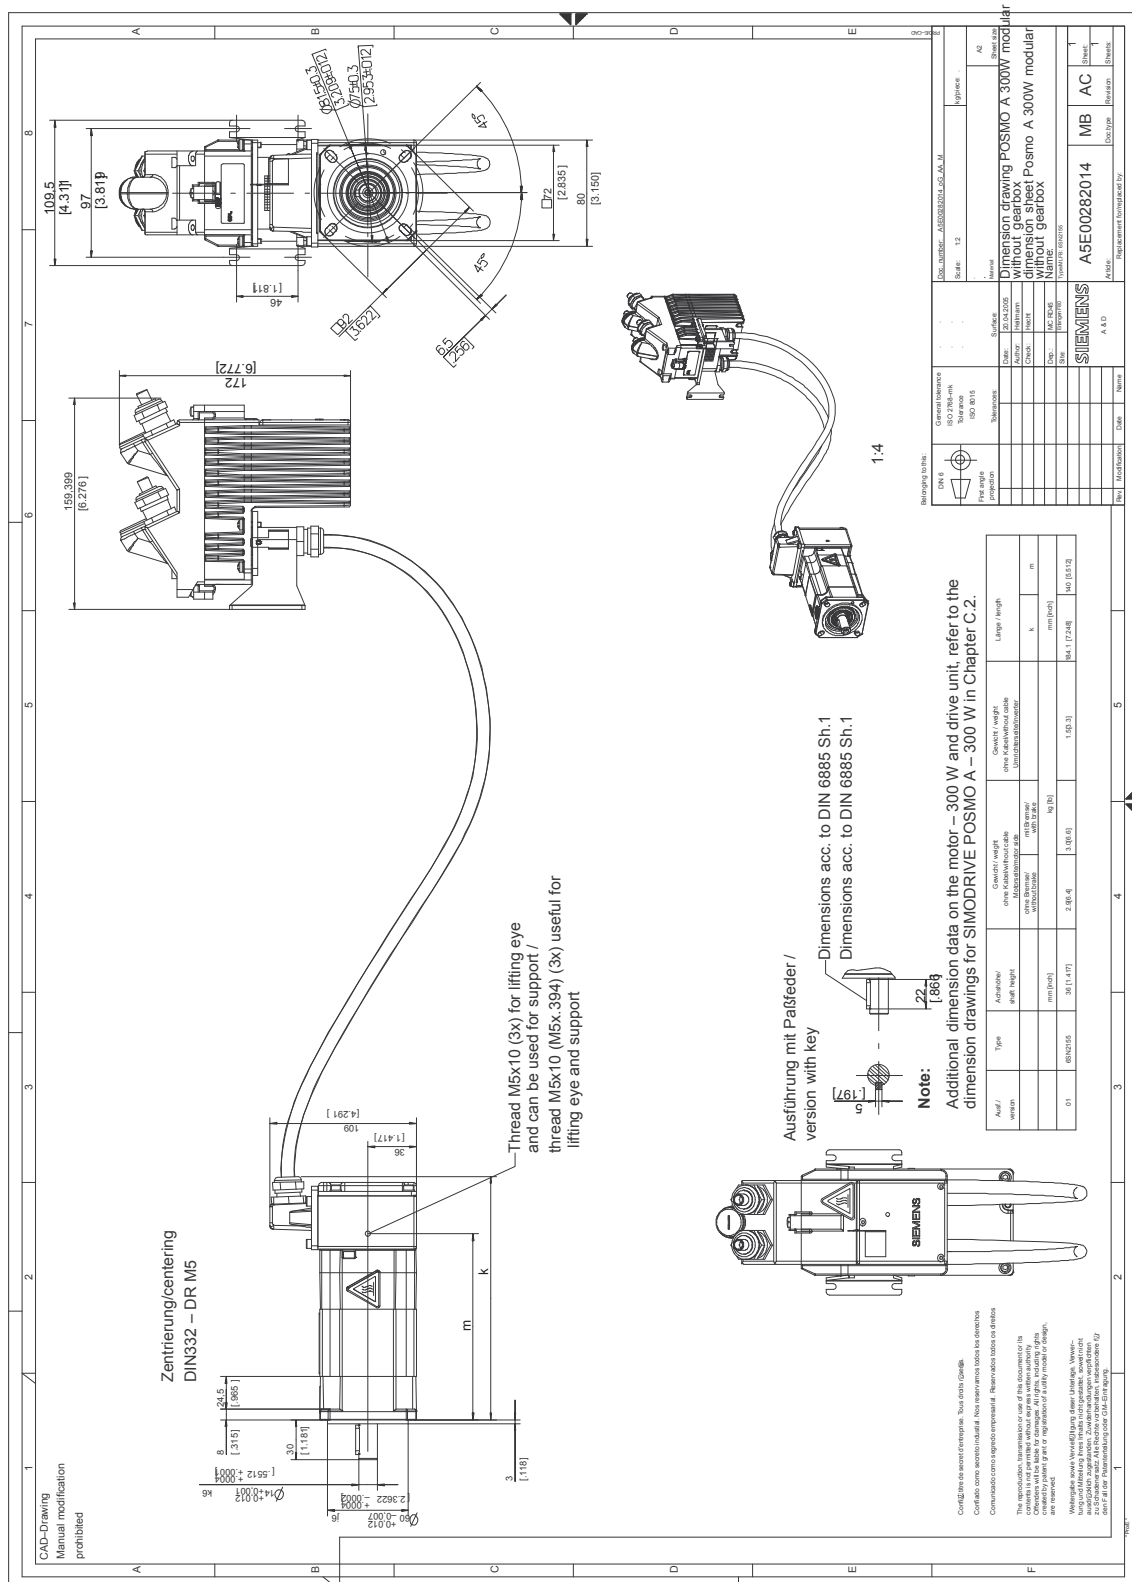

Fig. C-7 Dimension drawing: SIMODRIVE POSMO A – 300 W extension set "separate version" without gearbox
- Motor without gearbox —> refer to Fig. C-7